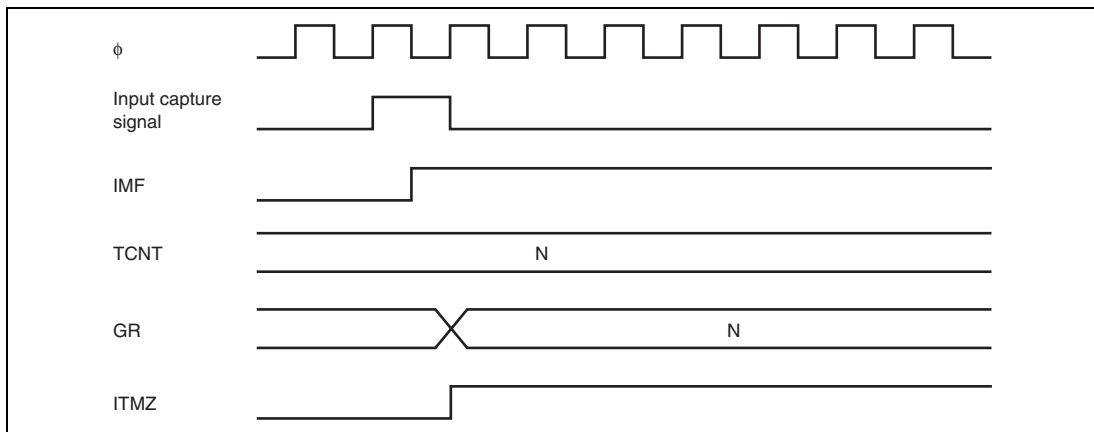

Figure 14.49 IMF Flag Set Timing at Input Capture
2. **IMF Flag Set Timing at Input Capture:** When an input capture signal is generated, the IMF flag is set to 1 and the value of TCNT is simultaneously transferred to corresponding GR. Figure 14.49 shows the timing.